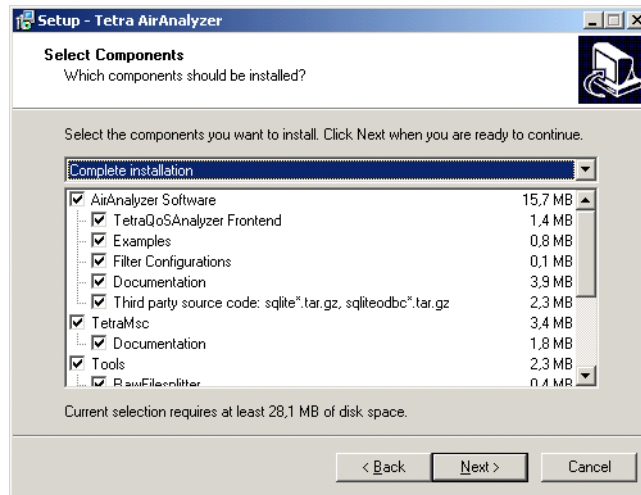

Figure 5 Selecting the AirAnalyzer components for installation
- 8 Select a folder where the application software can store traces and data evaluation files, and click **Next**. The Select Components window appears as shown in Figure 5.